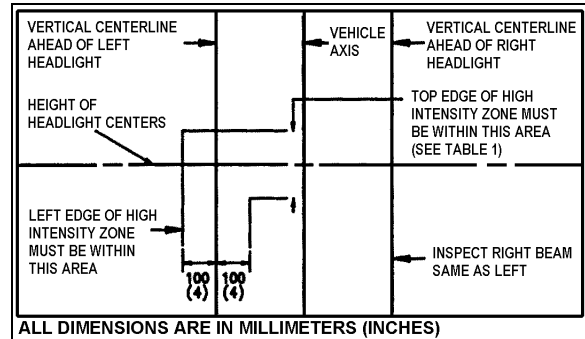

FIGURE 34: AIM INSPECTION LIMITS FOR LOWER-BEAM HEADLIGHTS 06506
7. The inspection limits in the vertical direction for low-beam headlights or the low beam of a dual-beam headlight, shall be as described in Table 1. In the horizontal direction, the left edge of the high-intensity zone shall be located from 10 cm (4 in) left to 10 cm (4 in) right of the vertical centerline of the beam. The viewing screen shall be located 7.6 m (25 ft) in front of the vehicle (Fig. 34).